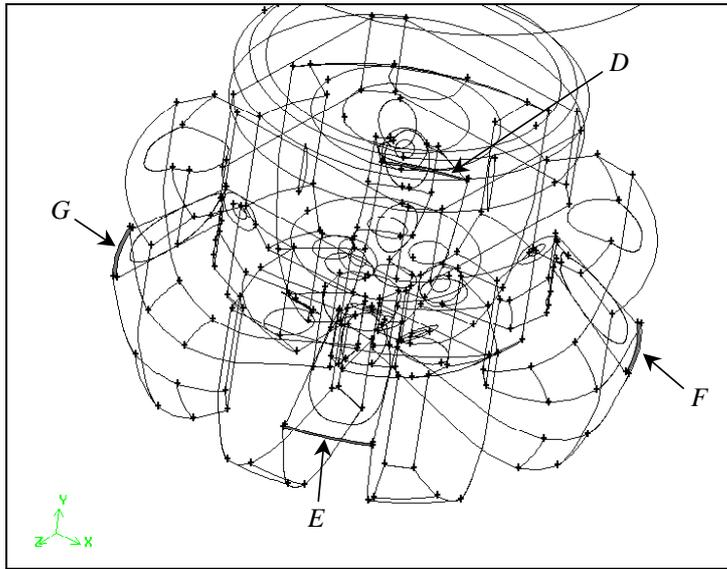

Figure 11-7: Small, rectangular lip faces
Having eliminated the three small, ovoid faces at the base of the main shaft, you will now remove four small, rectangular faces that serve as lips to other, larger faces (see Figure 11-7).
*GAMBIT highlights and zooms in on the smallest of the rectangular lip faces (face D in Figure 11-7) and automatically selects the Merge faces option and populates the **Faces to merge** pick list with suggested faces to merge.*
- g) Click the A/N pushbutton to eliminate the selected face and automatically select the next smallest face (face E in Figure 11-7).
- h) Click the A/N pushbutton to eliminate the selected face and automatically select the next smallest face (face F in Figure 11-7).
- i) Click the A/N pushbutton to eliminate the selected face and automatically select the next smallest face (face G in Figure 11-7).